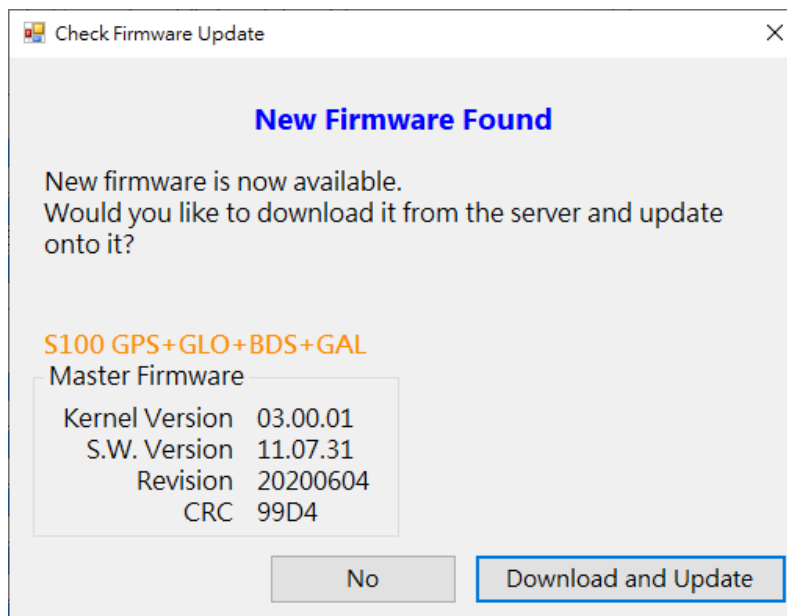

Figure 6-5
- In case new update software is found, a dialog box will appear. Press “Download and Update” to update, or “No” to cancel update. See Figure 6-5.